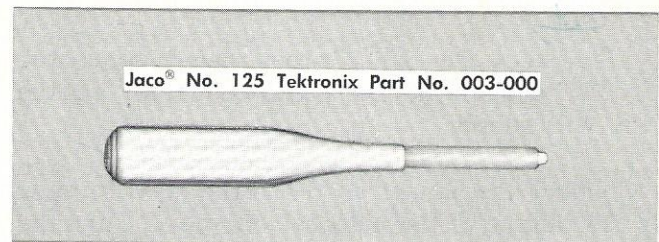

Fig. 5-1. Tool required for calibrating the Type 570 Oscilloscope.
4. Oscilloscope, Tektronix Type 503 or 504. If a Type 503 or 504 Oscilloscope is not available, it will be necessary to substitute an oscilloscope with the following specifications: (1) calibrated vertical deflection factors from .01 to 10 volts per division and (2) bandpass of dc to 500 kilocycles.
8. Alignment tool. See figure 5-1.